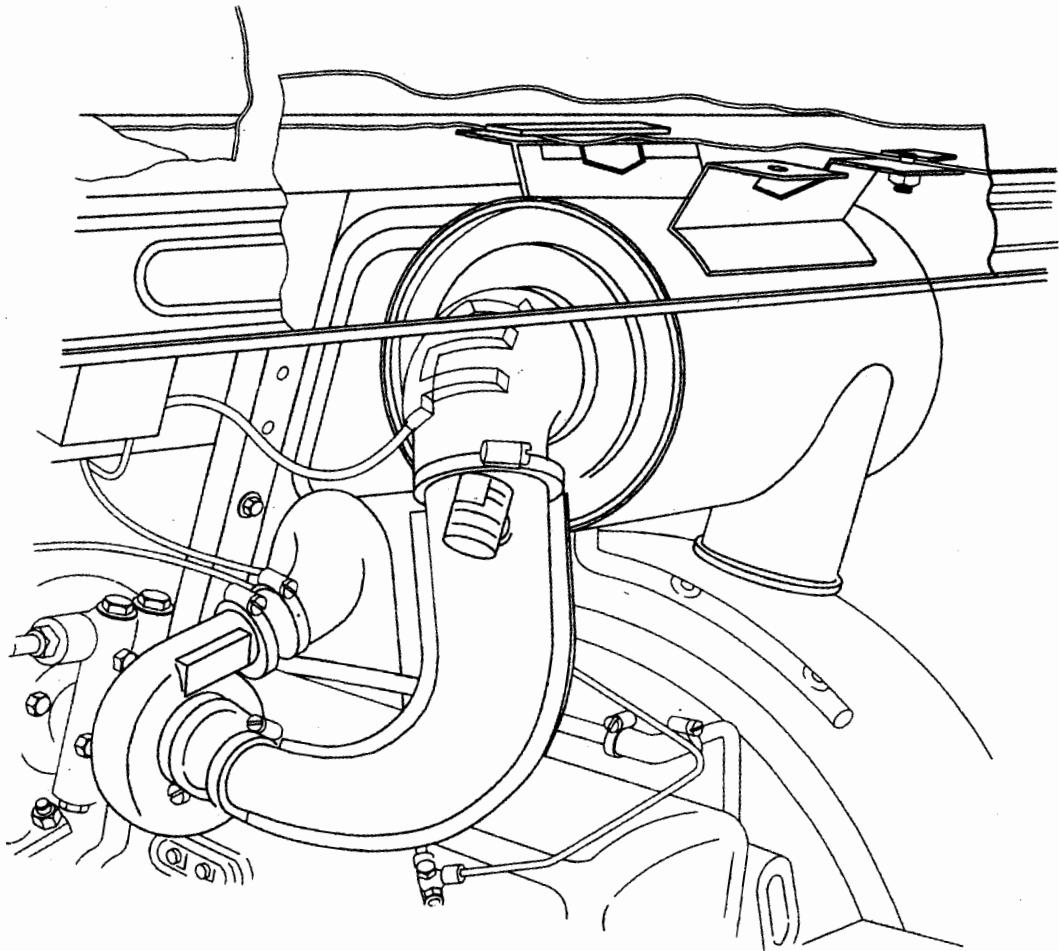

Fig 1 Old Air Cleaner
9.1 The existing engine air cleaner assembly (item 15), and hoses (items 24, 27 & 29) (shown in Figs 1 & 2) may be removed by slackening the jubilee clip (item 30), removing four nuts (item 23), and washers (item 22) clamping the air cleaner assembly to the underside of the parcel shelf. Remove the two supports and brackets (items 21 & 20) and lift away the complete assembly.